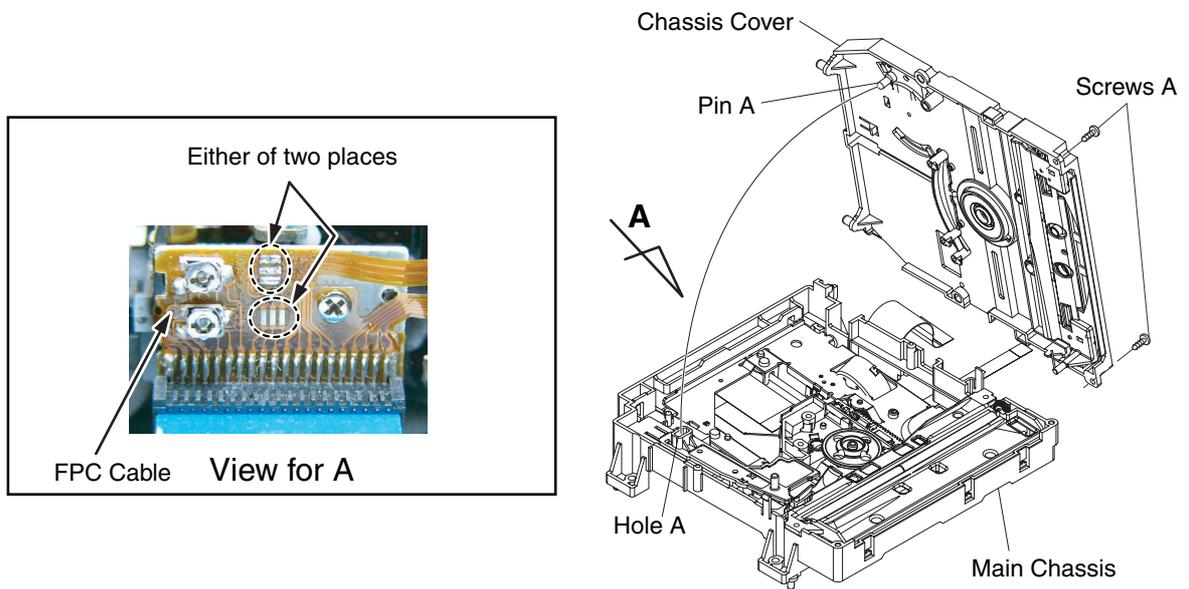

Fig. D2
- 1) Short the three short lands of FPC cable with solder before removing the FFC cable (CN201) from it. If you disconnect the FFC cable (CN201), the laser diode of pickup will be destroyed. (Fig. D2)
- 2) Disconnect Connectors (CN301), (CN401), (CN601) and (CN801). Remove three Screws (S-6) and remove the DVD Main CBA Unit. (Fig. D2)
- a. To remove the Chassis Cover, remove two screws A as shown in Fig. D2.
- b. To avoid damage of the pickup unit (laser diode), confirm that the three short lands (either of two places) are shorted out by soldering between them as shown in View A in Fig. D2.
- e. Insert the pin A on the Chassis Cover into the hole A on the Main Chassis as shown in Fig. D2. Then tighten two screws A to install the Chassis Cover.
3. **CAUTION 2:** When reassembling, confirm the FFC cable (CN201) is connected completely. Then remove the solder from the three short lands of FPC cable. (Fig. D2)
- 2) To remove the DVD Main CBA Unit, remove a screw (S-6) in Fig. D2. Do not disconnect connectors.
- 3) To remove the Chassis Cover, remove two screws A as shown in Fig. D2.